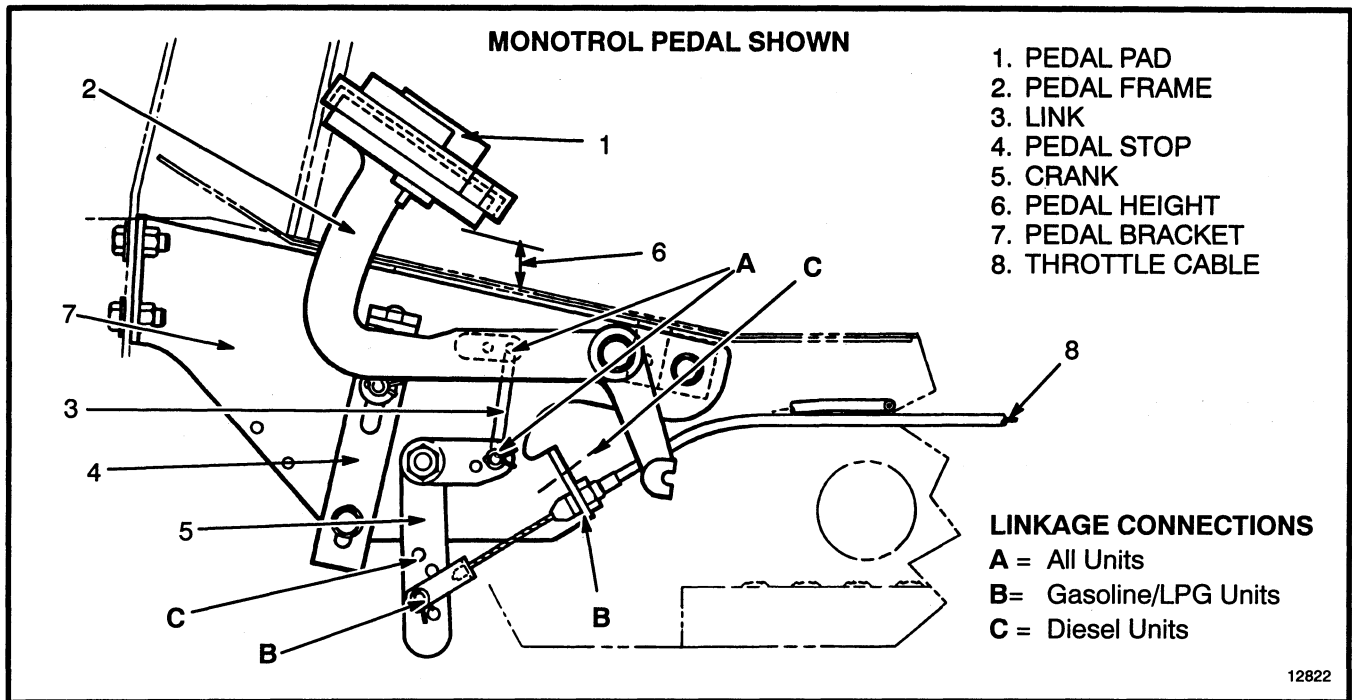

FIGURE 23. THROTTLE ARRANGEMENT, S/H1.50-1.75XM, S/H2.00XMS (S/H25-35XM, H40XMS)
**ADJUST THE THROTTLE LINKAGE, S/H1.50-1.75XM, S/H2.00XMS (S/H25-35XM, H40XMS) (See FIGURE 23.)**
1. Connect the throttle cable at the pedal. Tighten the jam nut at the pedal bracket (7).
3. Adjust the pedal height to 41.3 mm (1.63 in) using the pedal stop (4).